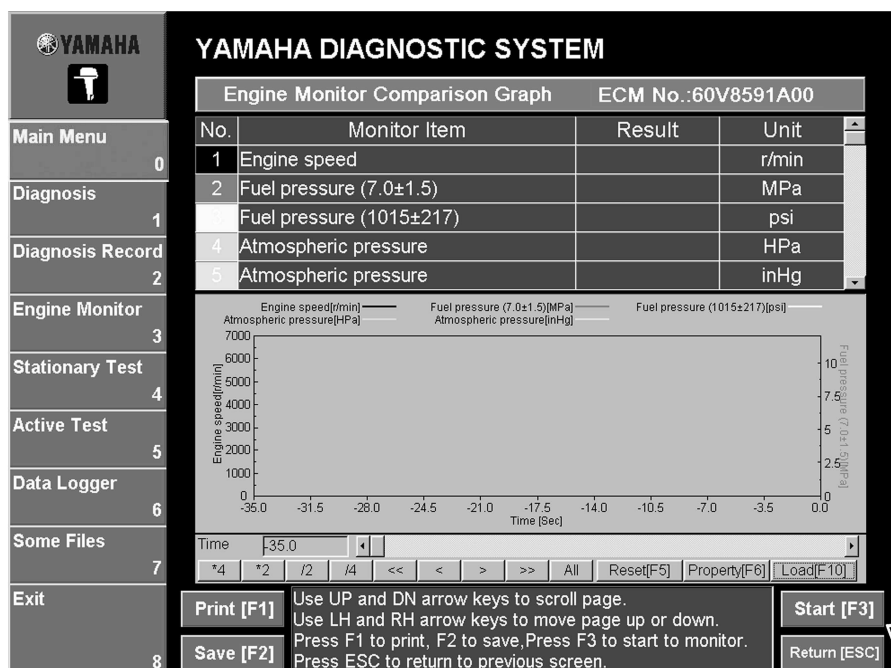

Fig. 59
7. When you are finished with graphic monitoring, click the **Return [Esc]** button or press the ESC key on your keyboard. (See fig. 59.)